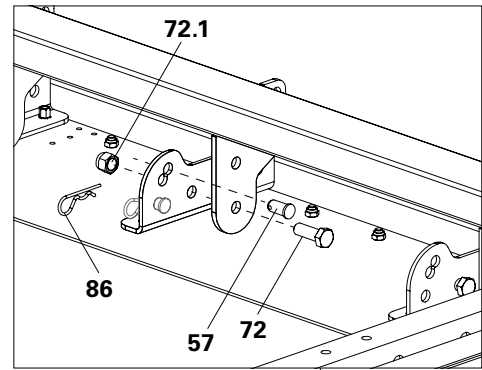
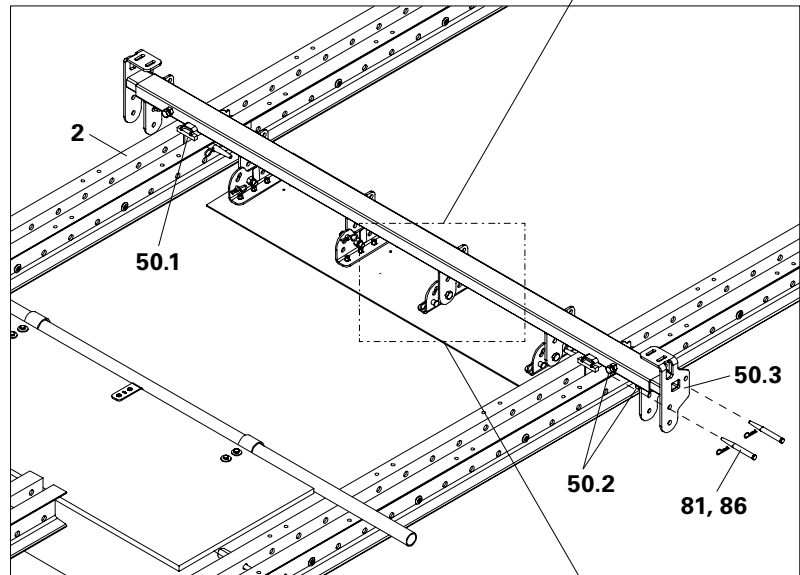

Fig. C1.18a
Fig. C1.18
2. Attach finishing platform to the Telescope Beam (50) that is still turnable using Bolts ISO 4017 M16x40 (72) and Nuts (72.1).
3. Insert Bolt  $\varnothing$  16x36 (57) with Cotter Pin (86) into the 45° hole of the Support Angle, thereby preparing the finishing platform for transport. (Fig. C1.18a + C1.18b)
5. Insert the Telescope Beam (50) with the suspensions (50.1) into the Climbing Rails (2). The clamping screws (50.2) of the telescopic tubes point upwards and inwards.
6. Secure suspensions with 2x Fitting Pins  $\varnothing$  21x120 (81) and Cotter Pins (86) respectively.
7. Completely insert telescopic tubes (50.3) and secure them with clamping screws. (Fig. C1.18)